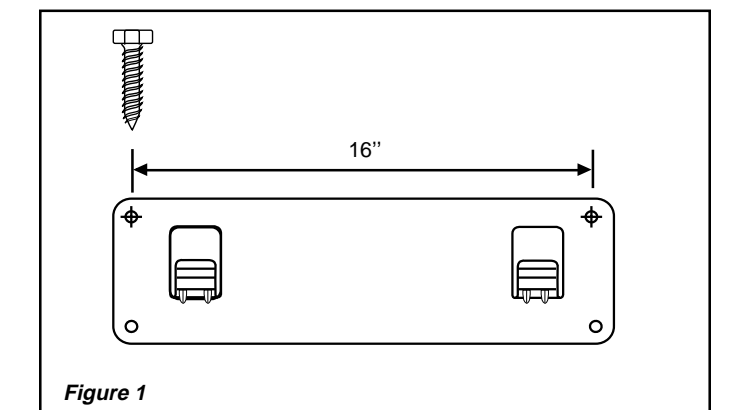

Figure 1
1. Choose a mounting location which will allow installation of the supplied 3/8" (9.5mm) lag bolt directly into wall studs. The bracket has mounting holes on 16" (406mm) centers. (Figure 1)